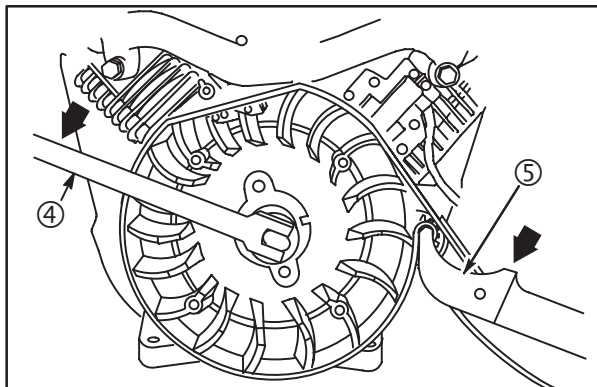

Fig. 14
1. Prevent the flywheel from turning with Flywheel Strap Wrench, #19433 (5) around outer rim of flywheel, **Fig. 14**.
2. Turn the flywheel nut **COUNTERCLOCKWISE** (arrow) with a 1/2" breaker bar (4) and a 30 mm socket to remove.